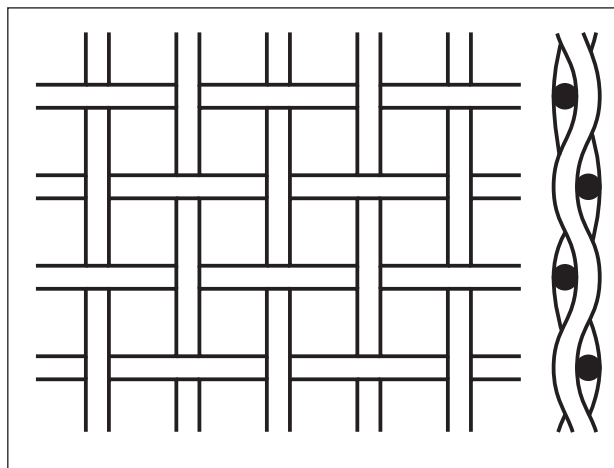

Figure 9.73 - Clear square and mesh
- Clear square and mesh- Most commonly used cloth type in the industry, Ref: Figure 9.73..